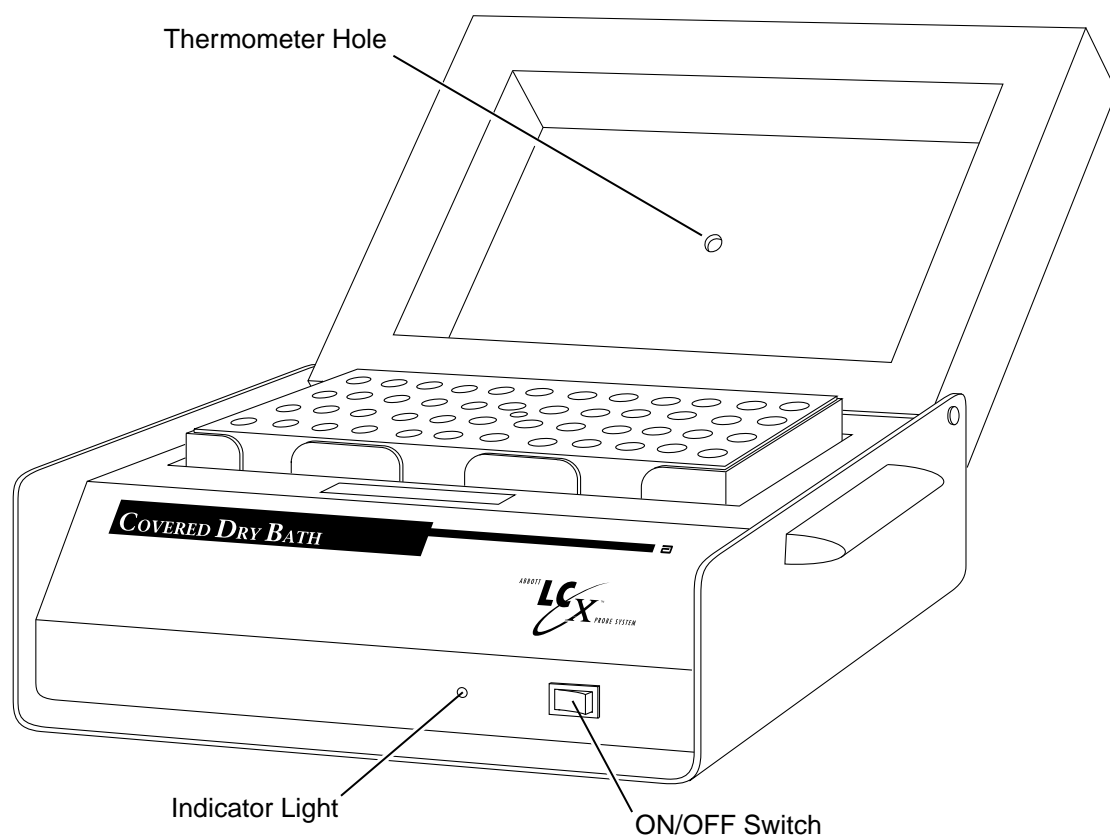
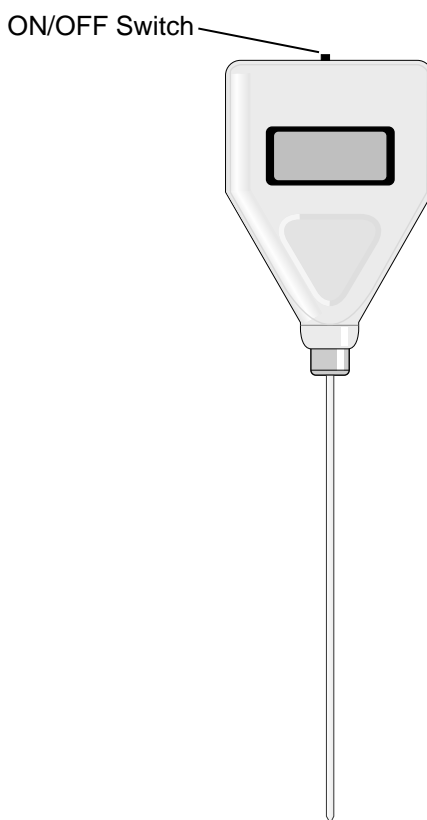

Figure 1: LCx Covered Dry Bath
Figure 2: Digital Thermometer
The LCx Covered Dry Bath is equipped with an ON/OFF switch that illuminates when the power is “ON” as shown in Figure 1. The indicator light turns on in conjunction with the operation of the heating element. LCx Covered Dry Bath units are available that operate on nominal 100, 120, or 220 volt AC power sources.
3. Pull the plastic cover off the digital thermometer. Insert the digital thermometer into the thermometer hole (see Figure 1) and turn the thermometer ON (see Figure 2).